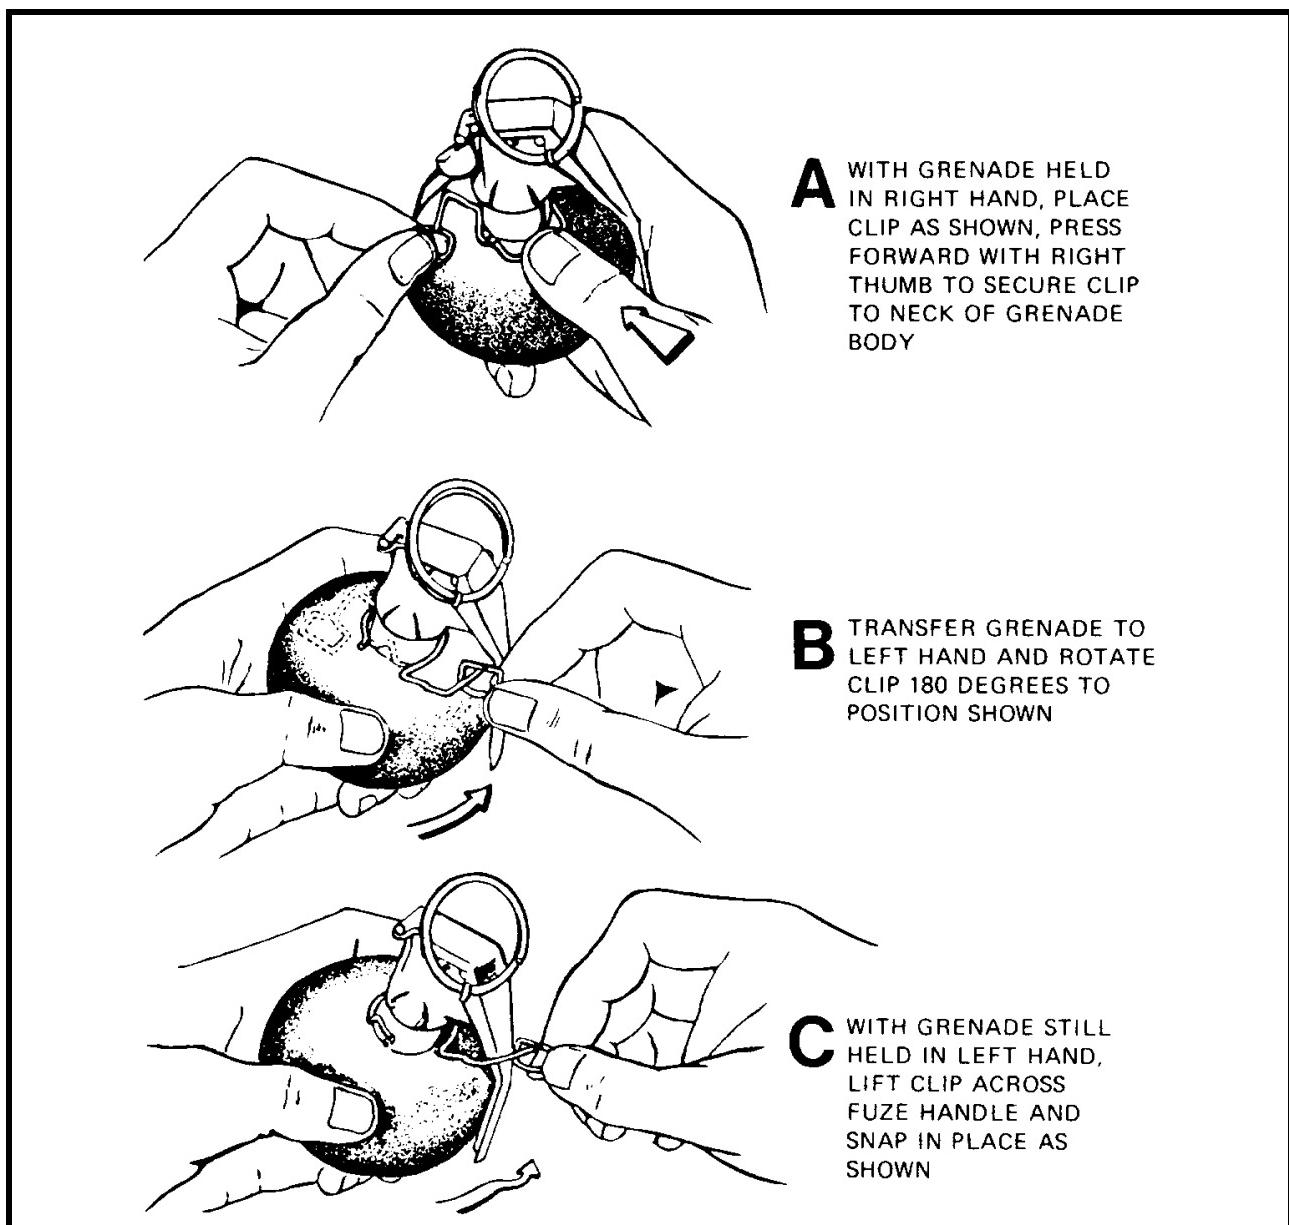

Figure 2-11 Placing the Safety Clip on Grenade, Hand Practice, Delay M69
2. The grenade safety clip is assembled to the grenade and positioned around the safety lever as shown in Figure 2-11.